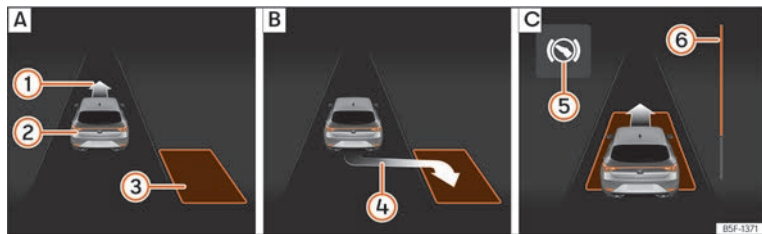
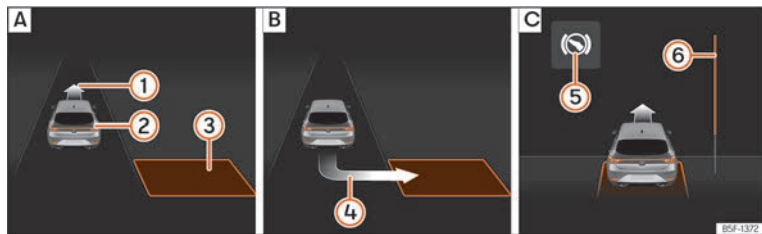

Fig. 202 On the instrument panel display: parallel parking. **[A]** Finding a parking space. **[B]** Parking position. **[C]** Manoeuvring.
Fig. 203 On the instrument panel display: angle parking. **[A]** Finding a parking space. **[B]** Parking position. **[C]** Manoeuvring.
- Look at the display on the instrument panel to see if the space has been detected as “appropriate” and if the correct position for parking has been reached »» Fig. 202 [B] or »» Fig. 203 [B]. The space is considered “appropriate” if the display on the instrument panel shows the message to park (4).
- Reverse until the continuous ParkPilot signal sounds; **OR:** reverse until the indication to move forward appears on the instrument panel display »» Fig. 202 [C] or »» Fig. 203 [C]; **OR:** reverse until the **Park Assist finished** message appears on the instrument
- Press the brake pedal until the parking assist system completes the steering wheel turns; **OR:** until the symbol (5) goes out on the instrument panel screen.
- Move forward until the continuous ParkPilot signal sounds; **OR:** move forward until the reverse indication appears on the instrument panel display. The Park Assist system steers the vehicle forward and back until it centres it in the space »» Fig. 202 [C] or »» Fig. 203 [C].
The progress bar »» Fig. 202 (6) and »» Fig. 203 (6) on the screen of the instrument panel displays the relative distance to be covered. The greater the distance, the fuller the progress bar. When driving forward, the content of the progress bar decreases upwards, and when reversing, it decreases downwards.